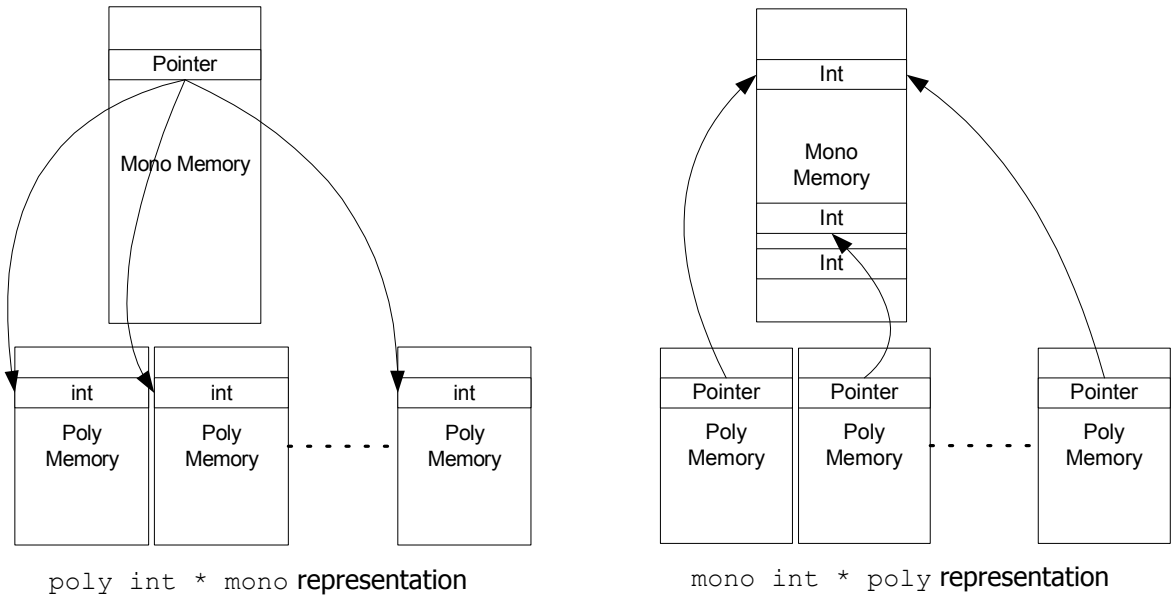

Figure 18.Representations of poly int * mono and mono int * poly
- Figure 18 shows how `poly int * mono` and `mono int * poly` can be visualized.
The poly specifier only applies to the *base type* of the array (the type of the elements of the array). This example will reserve a space in each instance of poly memory for 60 ints, the address of this memory will be at the same location in each PE. By looking at Figure 18 you can see that the array is in effect a `poly int * mono`. It is not possible to create a `poly int * poly` using array notation.